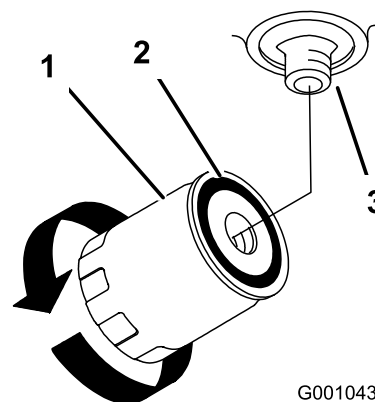

Figure 58
5. Remove the old filter and wipe the filter adapter gasket surface clean (Figure 58).
9. When the hydraulic filter is full, turn the oil filter clockwise until the rubber gasket contacts the filter adapter, then tighten the filter an additional 1/2 turn (Figure 58).